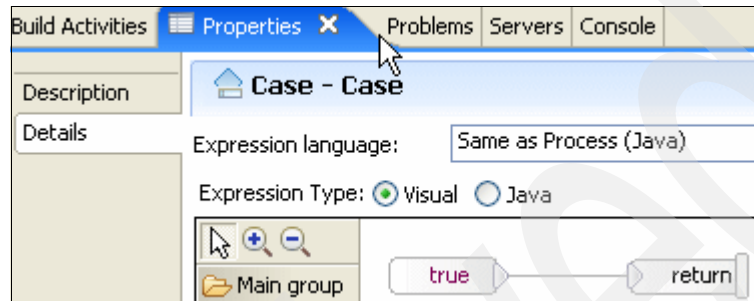

Figure 3-41 Final Verification Case element's Expression Language
2. Go to the Properties view of the Case element that is contained in the Choice activity, and then set the expression language to Same as Process (java) as shown in Figure 3-41.